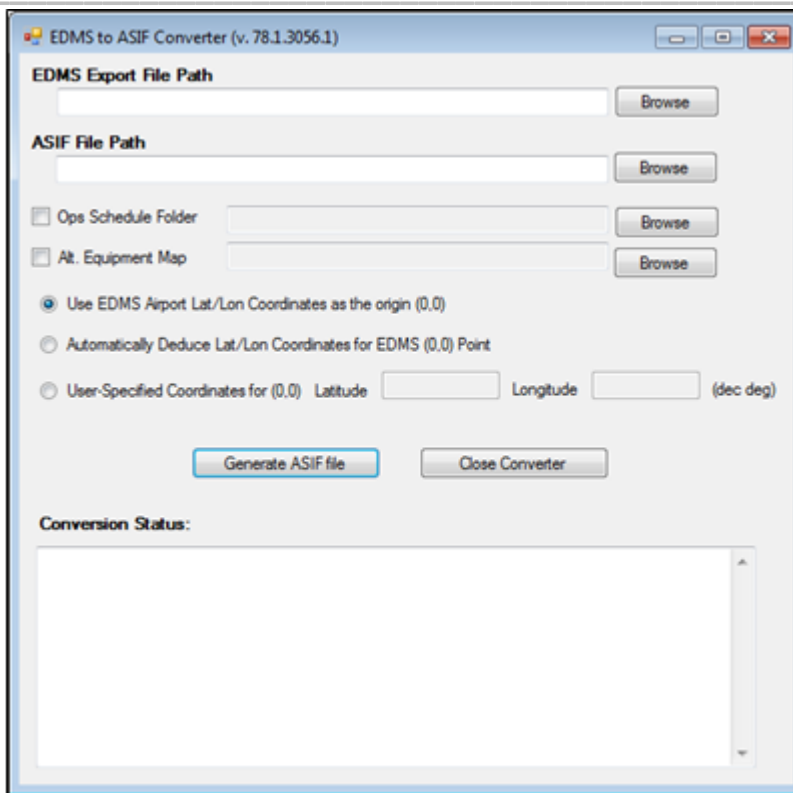

Figure 50- EDMS to ASIF
2. Double-click the EDMS2ASIFv2.exe to open the EDMS to ASIF Converter (Figure 50).